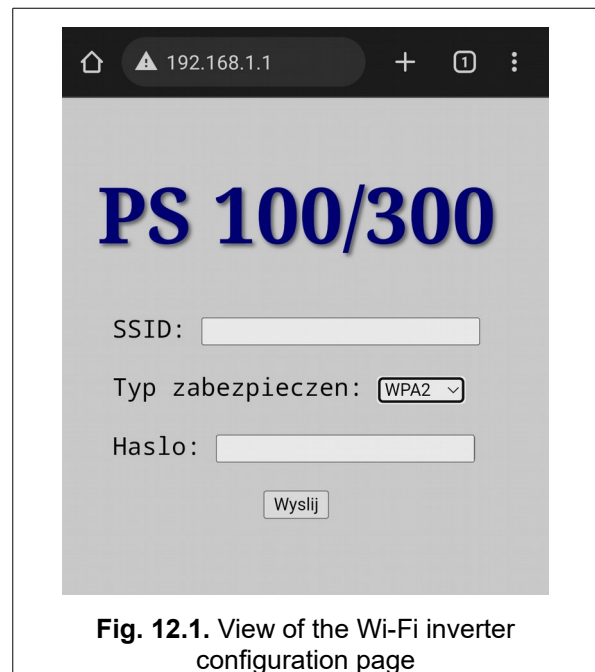

Fig. 12.1. View of the Wi-Fi inverter configuration page
3. Enter the address **192.168.1.1** in a web browser. On the configuration page (Fig. 12.1.) enter the parameters of the Wi-Fi network to which the inverter is to connect: